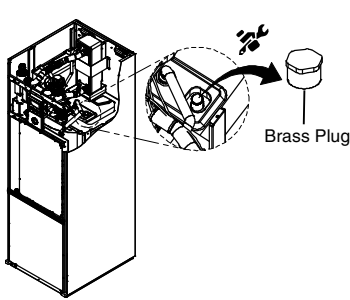

Fig.1
7. Unscrew the brass plug using 25mm wrench. (Refer Fig.1)